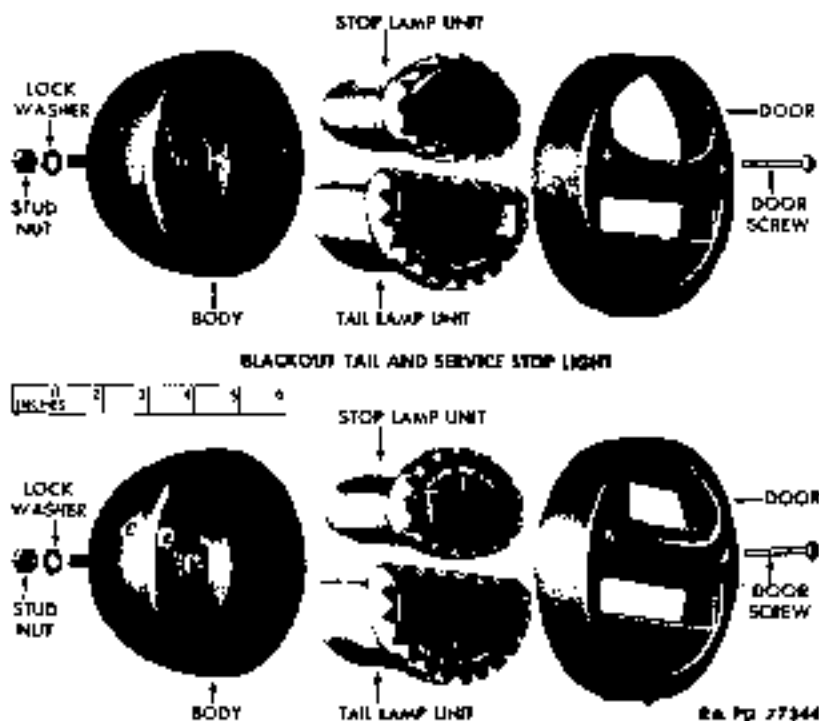

Figure 101 - Tail and Stop Lights Disassembled
(1) **DESCRIPTION** (fig. 101). The blackout tail and service stop light is attached to the frame rear crossmember at the left of the pintle hook. It contains two sealed beam lamp-units, each unit consisting of a lens, lamp, and reflector replaceable only as a unit. The blackout
(1) **DESCRIPTION** (fig. 101). This light is attached to the frame rear crossmember at right of pintle hook, and is similar to the blackout tail and service stop light, except that the blackout stop light emits a small triangle of shielded light visible only from rear.
(2) TABULATED DATA.